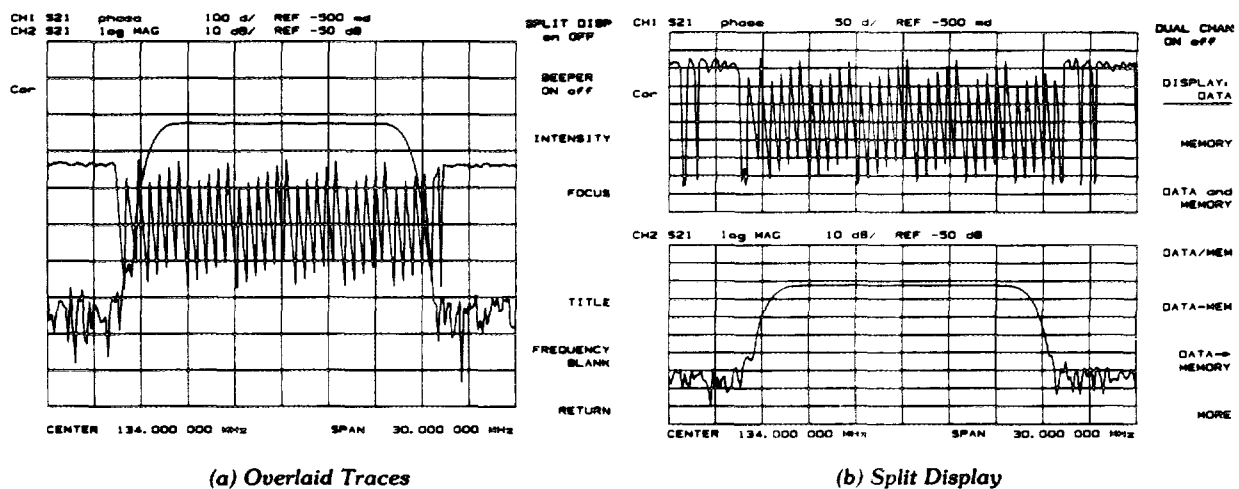

Figure 4-25. Dual Channel Displays
**[SPLIT DISP on OFF]** (SPLDON, SPLDOFF) toggles between a full-screen single graticule display of one or both channels, and a split display with two half-screen graticules one above the other. Both displays are illustrated in Figure 4-25. The split display can be used in conjunction with **[DUAL CHAN ON]** in the display menu to show the measured data of each channel simultaneously on separate graticules. In addition, the stimulus functions of the two channels can be controlled independently using **[COUPLED CH ON]** in the stimulus menu. The markers can also be controlled independently for each channel using **[MARKERS: UNCOUPLED]** in the marker mode menu.